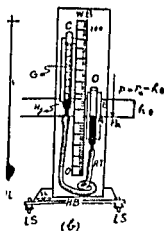

Fig 3.2
6. Then slide the tube O in such a way that the mercury level in O is lower than that of C and in these cases the gas pressure is less than that of atmosphere as shown in the fig. 3.2. Take down at least six readings when the gas pressure is less than the atmospheric pressure. In these cases the gas pressure  $P < \text{atmospheric pressure } P_a$   $h$ .